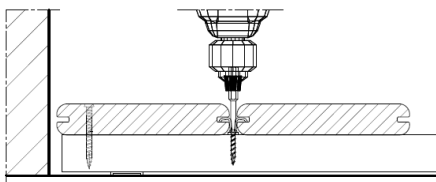

Figure 2
5. Once 1st and 2nd boards are positioned, tighten the COBRA® screws down. A special bit is provided. Do not over tighten the screws (**Figure 2**). Use a plastic hammer to tighten the 2nd board to the 1st one (**Figure 3**). Repeat the same steps for next boards.